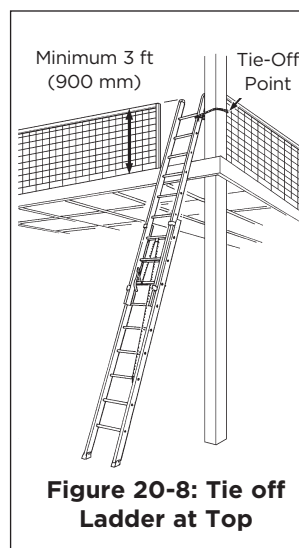

Figure 20-8: Tie off Ladder at Top
- Tie off the top of the ladder or otherwise secure it to prevent any movement (Figure 20-8).